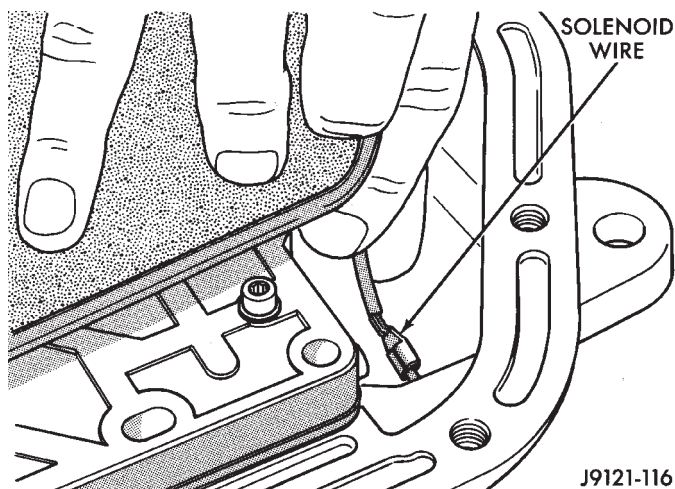

Fig. 6 Solenoid Wire Connection
(10) Disconnect solenoid wire from case connector (Fig. 6).